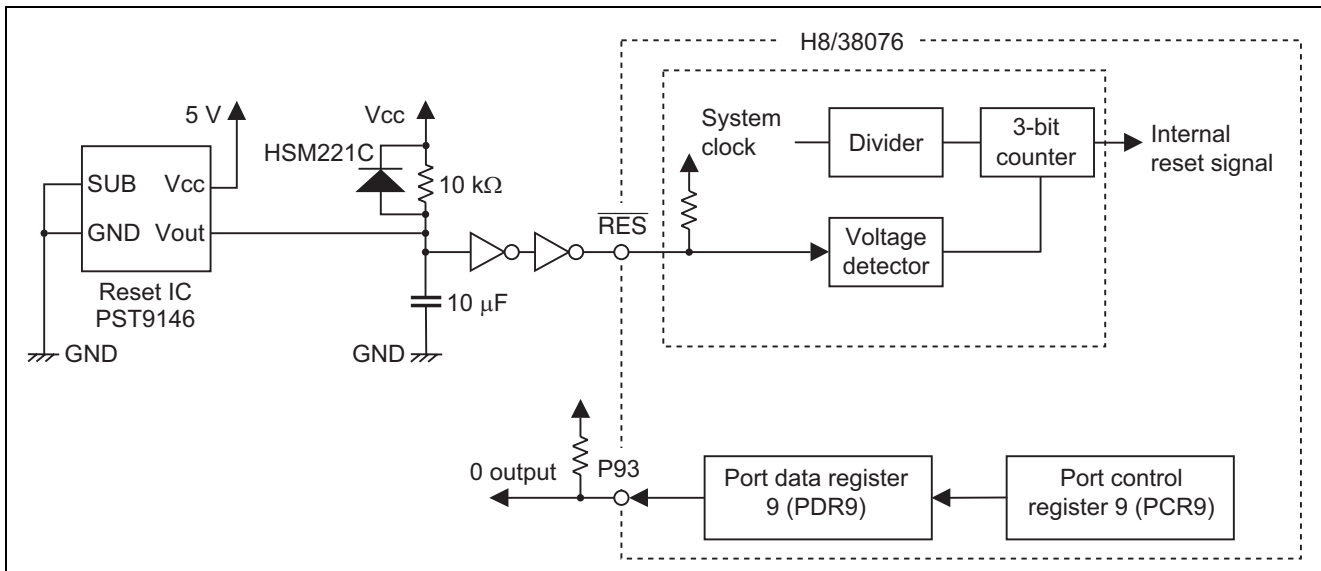

Figure 2 Block Diagram of Reset IC Circuit and H8/38076
1. This sample task connects a reset IC circuit to the H8/38076 to perform a power-on reset. Figure 2 is a block diagram of the reset IC circuit and H8/38076. The block diagram of the H8/38076 is described below.